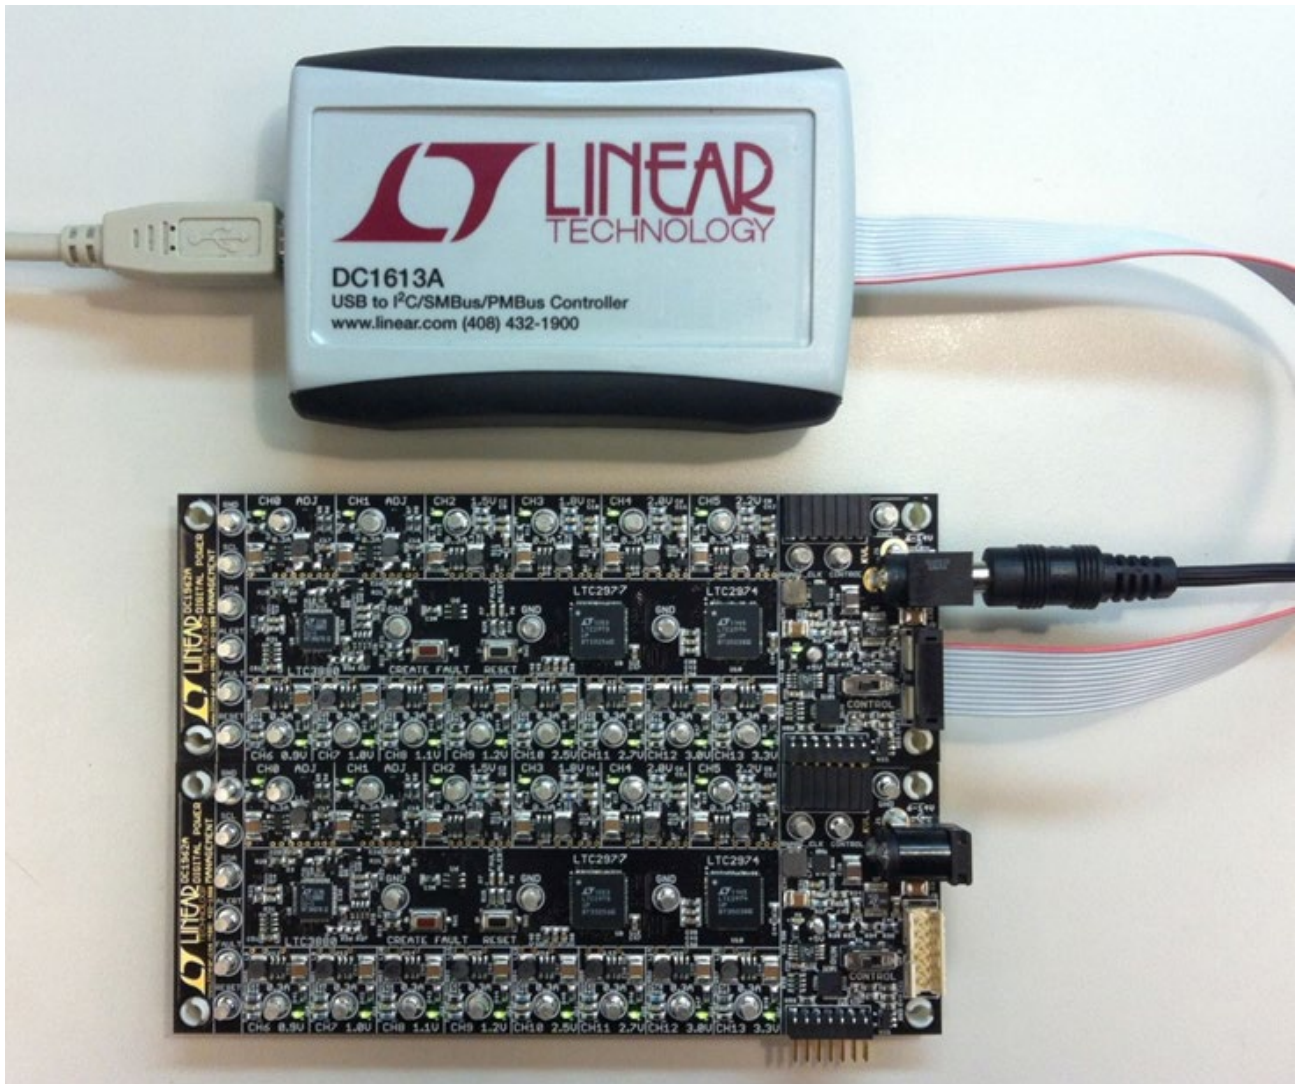

Figure 10. Array of Multiple DC1962C Demo Boards
3. Plug in the +12V  $V_{IN}$  power into one of the boards as shown in Figure 10. Only one +12V power source is allowed.